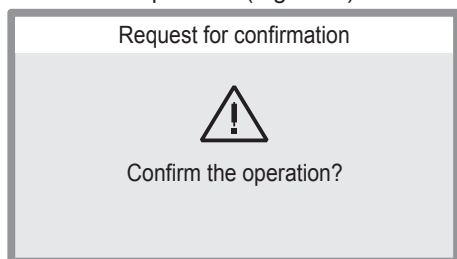

Fig. 2.30
- Press key 12 and wait 1 second.
- Press key 12 again.
- Press key 13 to reset the fault or key 14 to cancel the operation (Fig. 2.30).